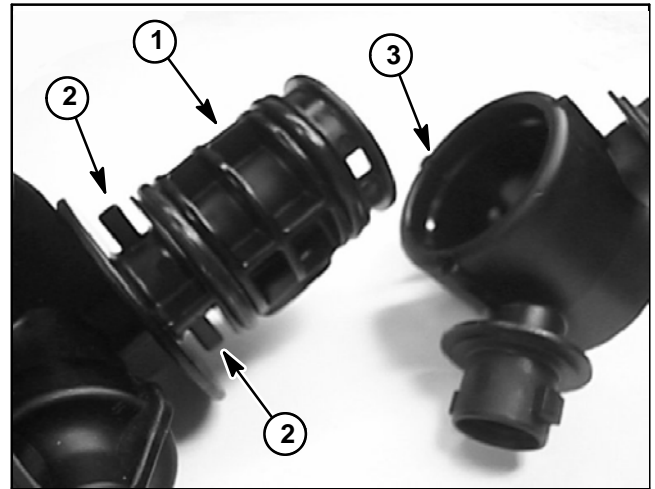

Figure 31
- A. The turret (item 8) end with slightly larger bore and detent grooves needs to be orientated toward detent posts on body (item 4) (Fig. 31).
- B. Make sure to align notch on plug (item 10) with groove in body (item 4) as plug is installed.
- C. Install e-clip (item 5) into body to secure assembly.